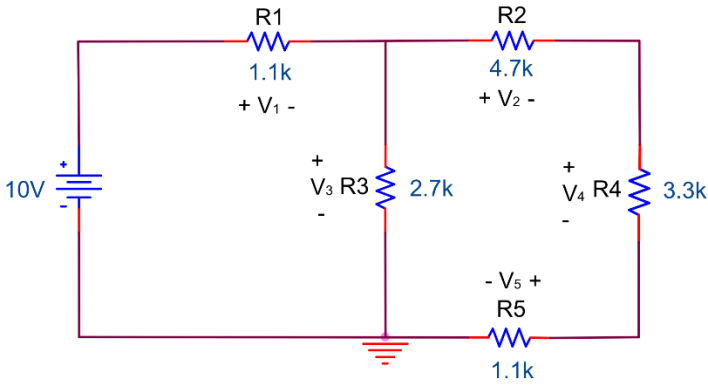

Figure 3.13
4. Construct Figure 3.13. Using the DMM, measure each of the variables and calculate the percent error for each.